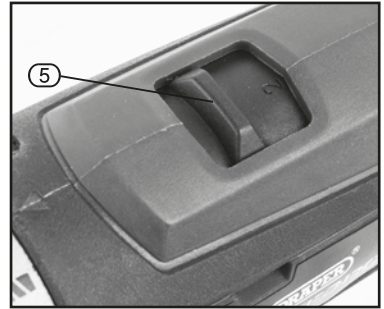

FIG.5
9.7 TWO SPEED GEAR BOX - FIG. 5